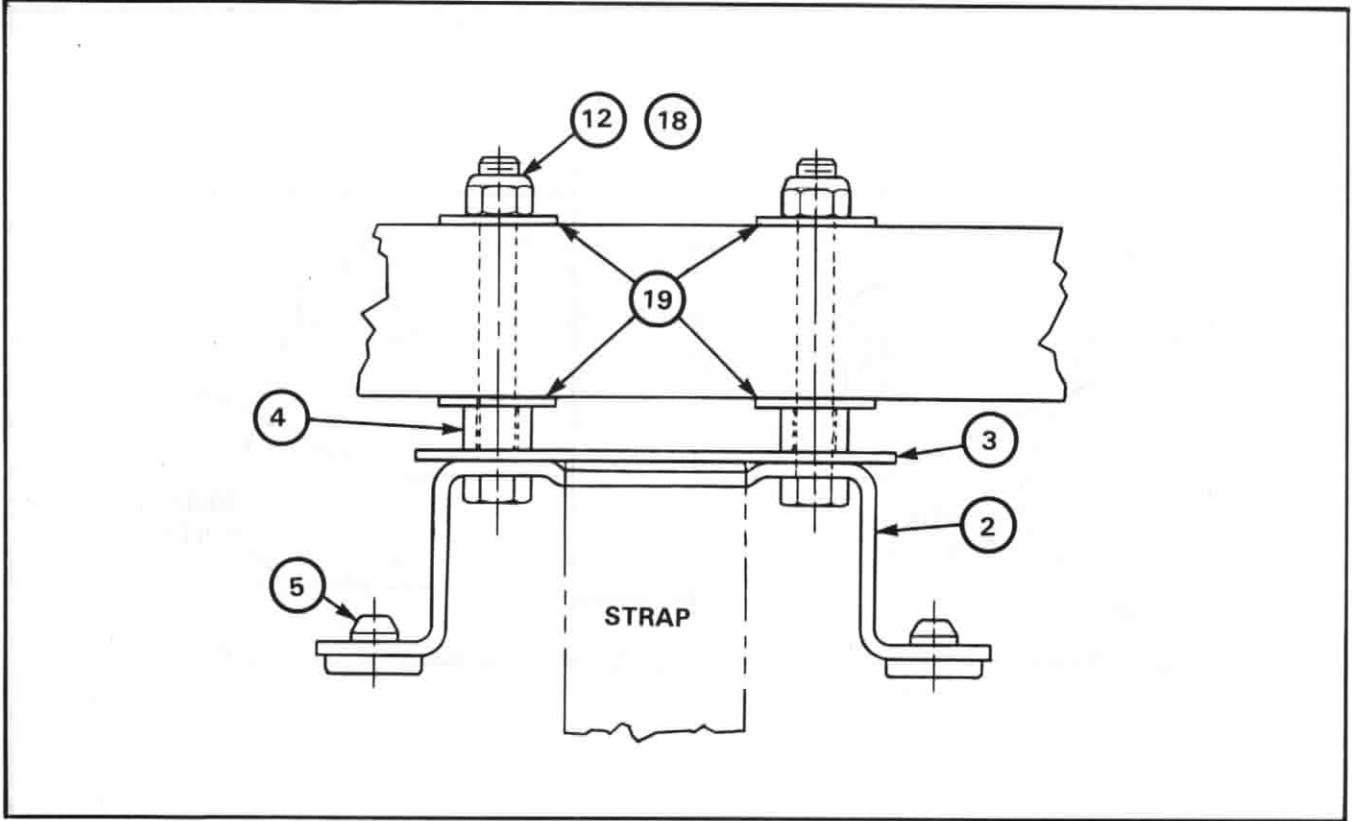

Figure 9 Installing Fuel Can Strap Retainer
- h. See Figure 9. Assemble the rubber bumpers (5) to the strap retainer (2), fit the screws (12) through the holes in the strap retainer and assemble the strap, strap plate (3), bushings (4) and large OD flat washers (19) on each screw.
- j. Insert the assembled screws (12) through the drilled holes in the tailgate and secure using large OD flat washers (19) with self-locking nuts (18).